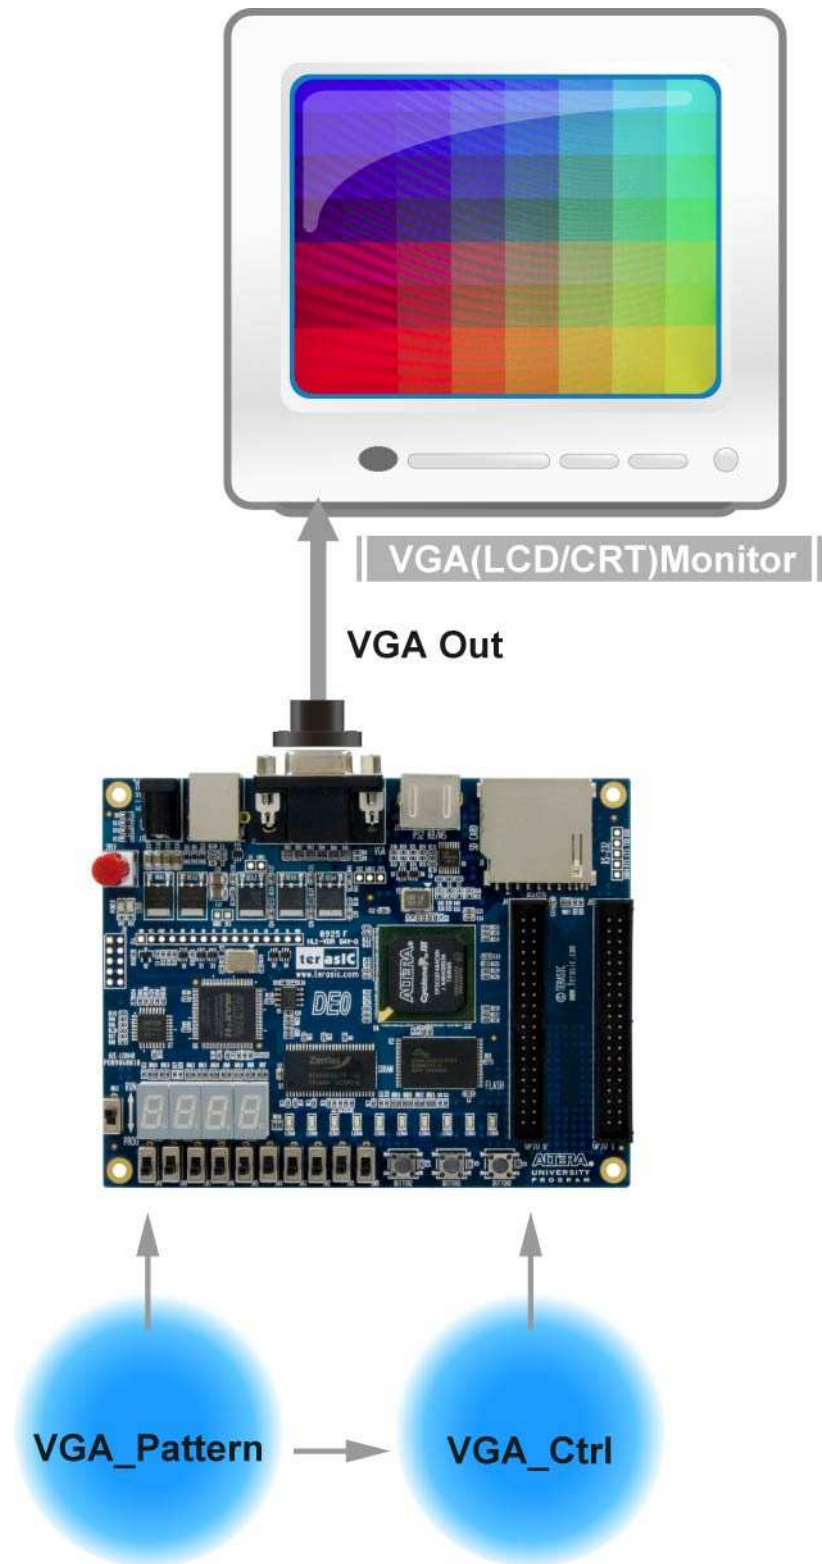

Figure 5.6. The setup for the VGA color pattern demonstration
- The LCD/CRT monitor should display the color pattern as shown in Figure 5.6.
Figure 5.6 illustrates the setup for this demonstration.